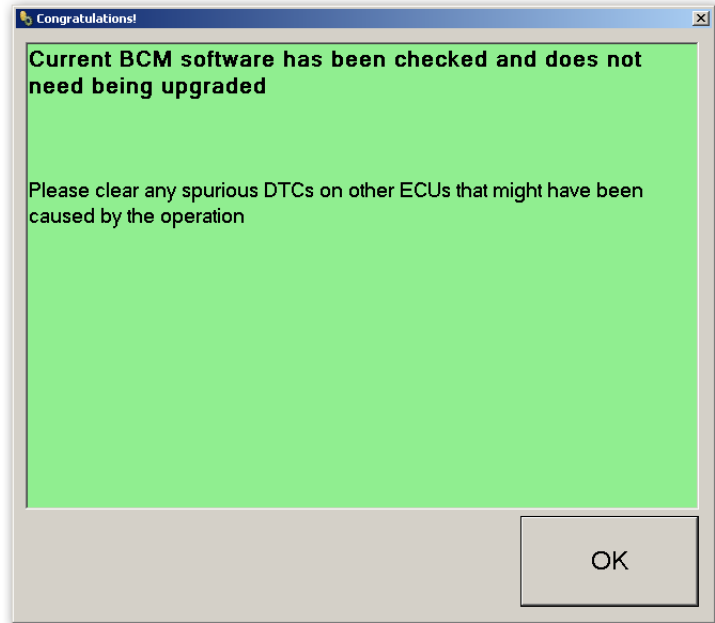

Figure 3
- The reprogramming process will stop and the message in Figure 3 will display.